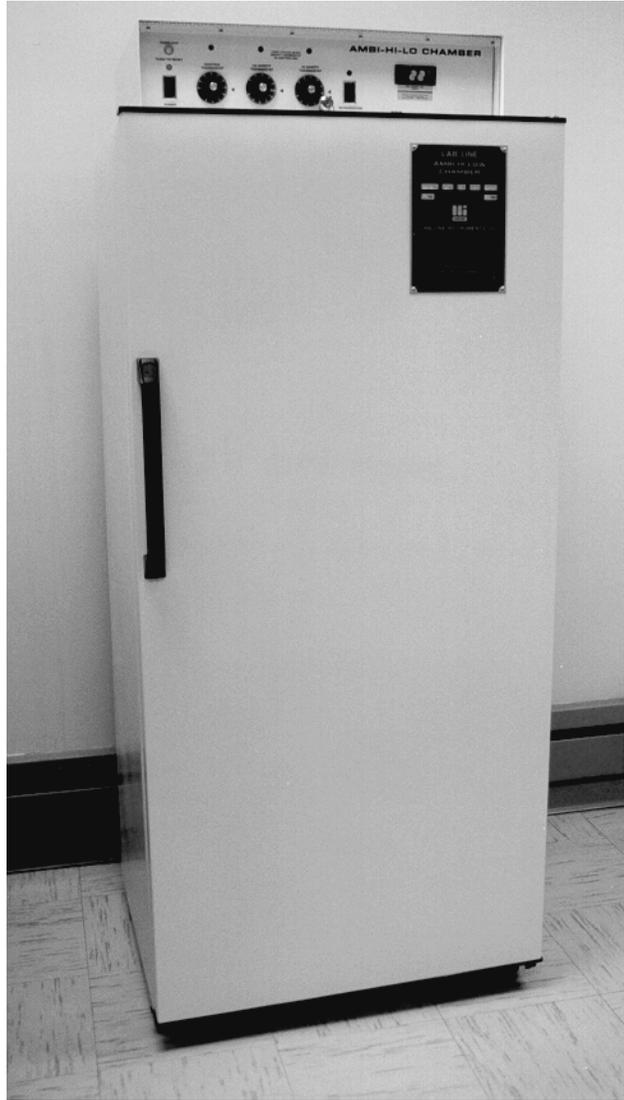

FIGURE 4 - Incubator
- 5.3 *Ball Track*, shown in Figure 4.